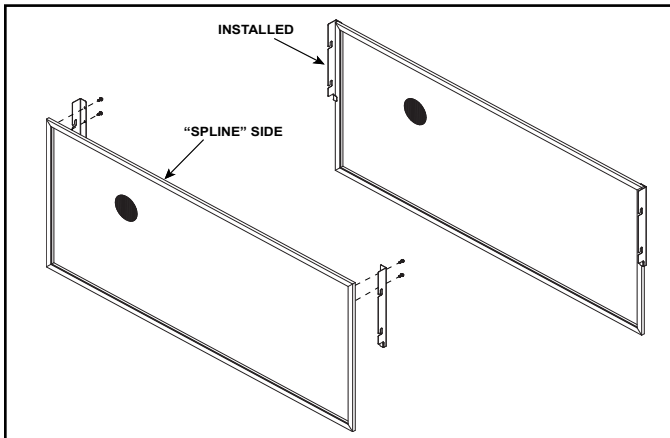

Figure 5. Install Mesh Bracket
3. Line up holes on mesh brackets with pilot holes on mesh. Install mesh brackets to "mesh" panel with 4 screws included as shown in Figure 5.